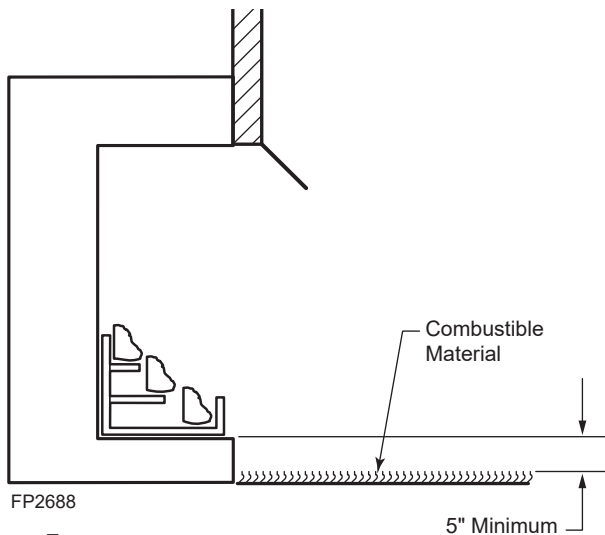

Figure 7 -
5. Floor clearance: This inner chamber firebox floor must be installed at least 5" above any combustible flooring material, such as carpeting or asphalt tile, which is closer than 14" to the base of the firebox. *Figure 7*